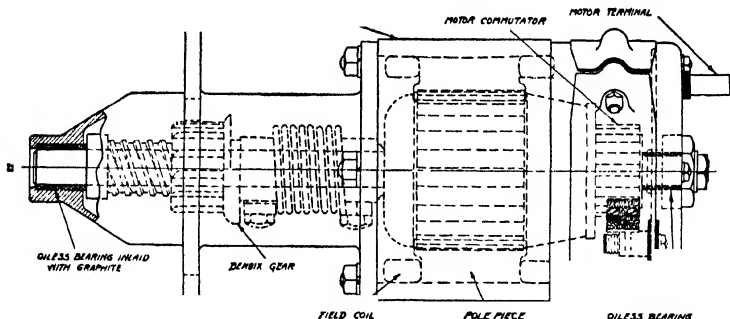

Fig. 252. Diagram of Starting Motor for Delco Two-Unit System
**Starting Motor.** Fig. 252 shows a longitudinal view of the starting motor fitted with the Bendix drive, while an end view of the motor,